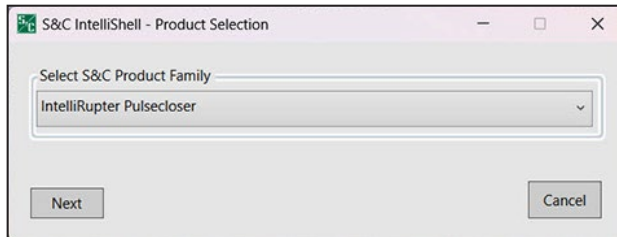

Figure 22. The S&C IntelliShell - Product Selection dialog box.
STEP 2. Select the IntelliRupter Pulsecloser option to update an IntelliRupter fault interrupter control. Click on either the Serial or Wi-Fi button based on the communication method used to connect to the control. See Figure 22.